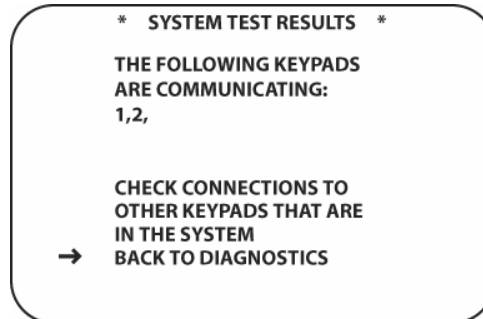

Figure 122 System Test Screen
4. With the cursor next to RUN SYSTEM TEST, press the **Set Button [oval 18]**. The SYSTEM TEST RESULTS screen will appear. (Figure 122)